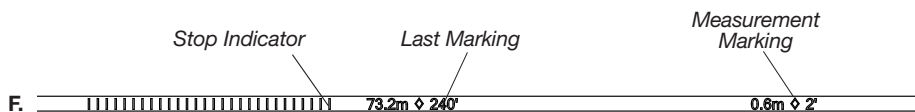

figure 1
2. Check the storage lock is unlocked before fishing. (Figure 1)